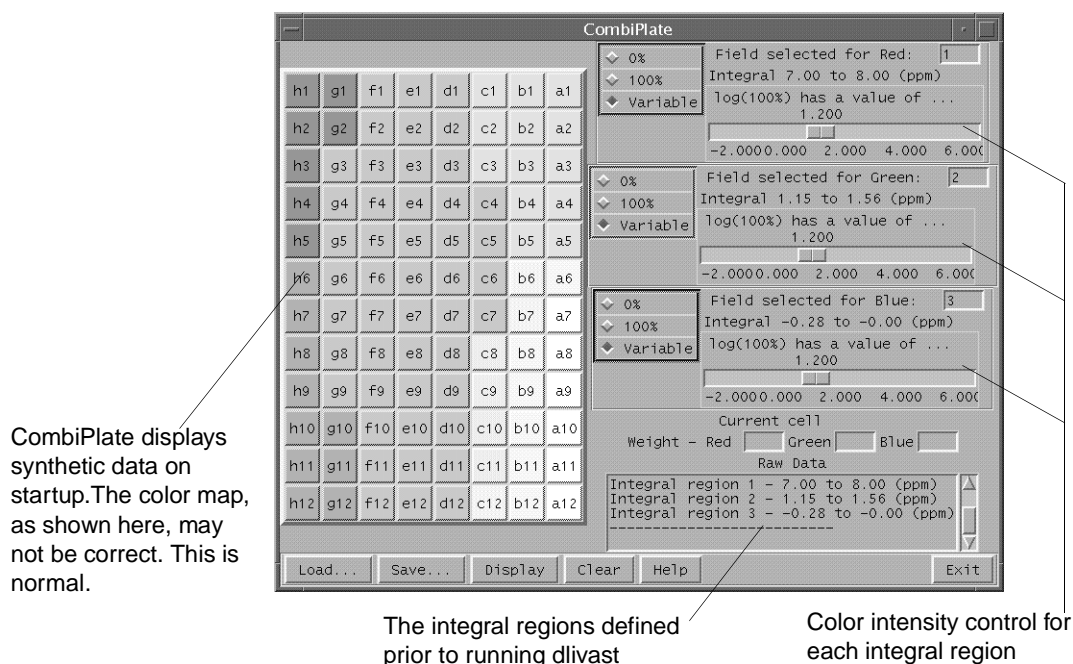

Figure 89. CombiPlate Started by `combishow` From `vnmr`
This assigns region (1) as red, region (2) as green, and region (3) as blue and starts the CombiPlate display using the data in (`~/vnmrsys/exp(#)/integ.out`). The initial colors displayed are from a synthetic data included with CombiPlate and may not be correct, see Figure 89 and “**Checking And Fixing The Color Map,**” page 334. Correcting the colors is *not* necessary at this time.
6. The File is loaded. The integral regions defined in step 6 of “Preparing VNMR Data For Analysis Using CombiPlate,” page 329 are displayed in the scrolling text box at the bottom of the CombiPlate window in the scroll box, see Figure 89.